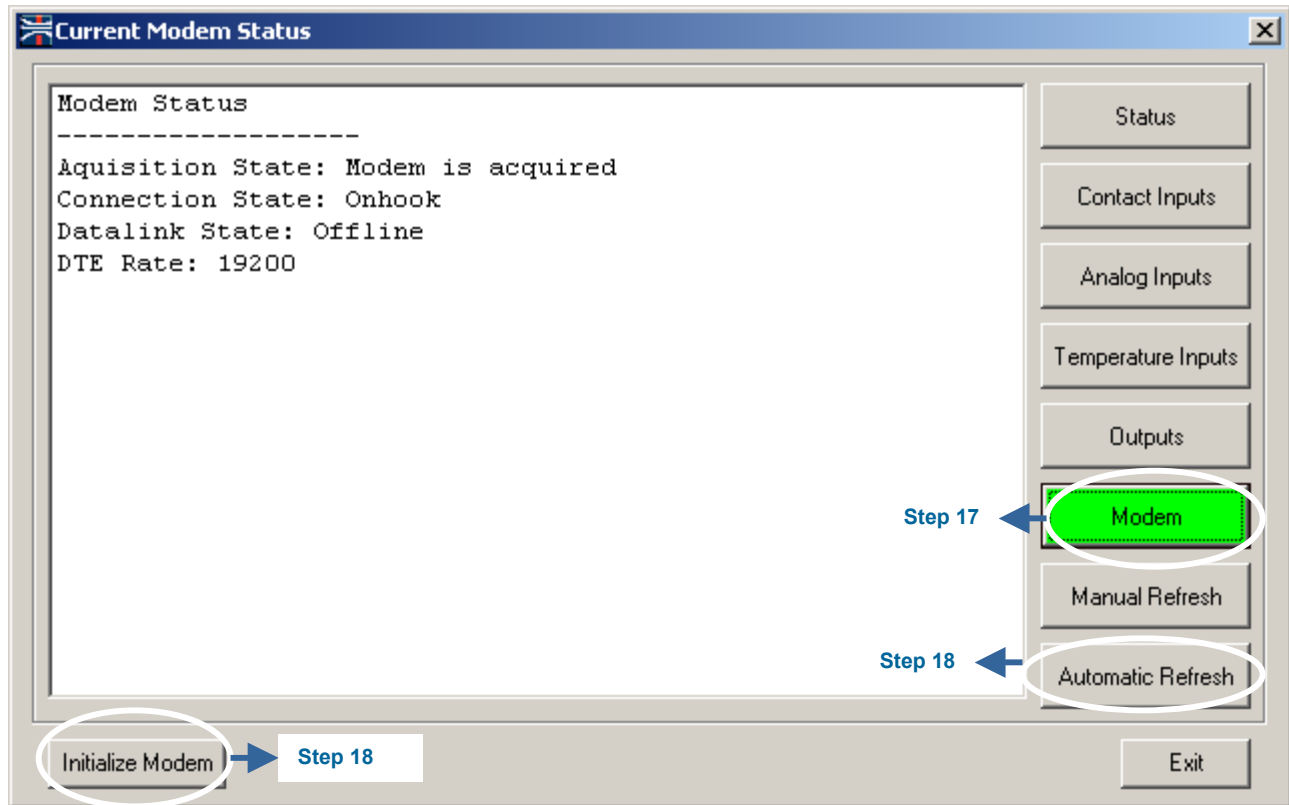

Figure 4 – Current Modem Status Panel
- Once the initial status information is displayed, click on the “Modem” button and note the current condition of the modem (Figure 4).
18. To verify that the modem is communicating properly with the sitePORTAL Lite, select “Automatic Refresh” then click the “Initialize Modem” button. Monitor the modem status window (Figure 4). If communication is successful, a message stating “Acquisition State: Modem is Acquired” will be displayed. It will also indicate the speed the sitePORTAL Lite is communicating with the modem. Click “Exit” when process is complete.